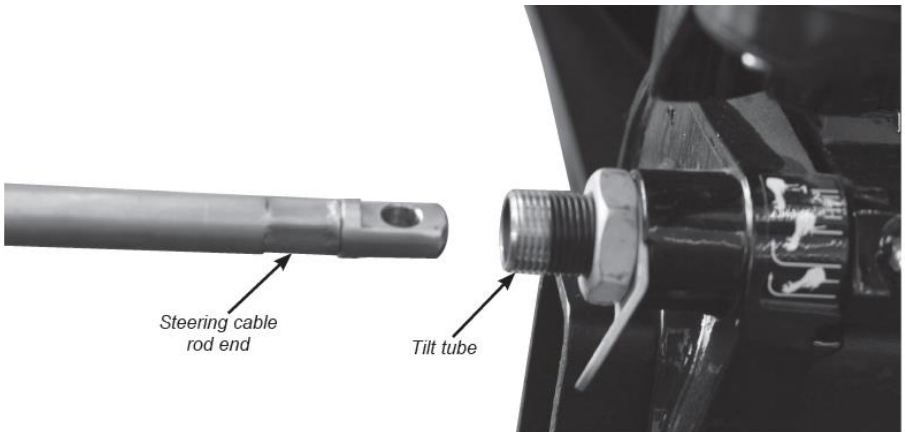

Fig B6 - Inserting the steering cable into the tilt tube
- i) Insert the rod end of the steering cable into the tilt tube (Fig B6).